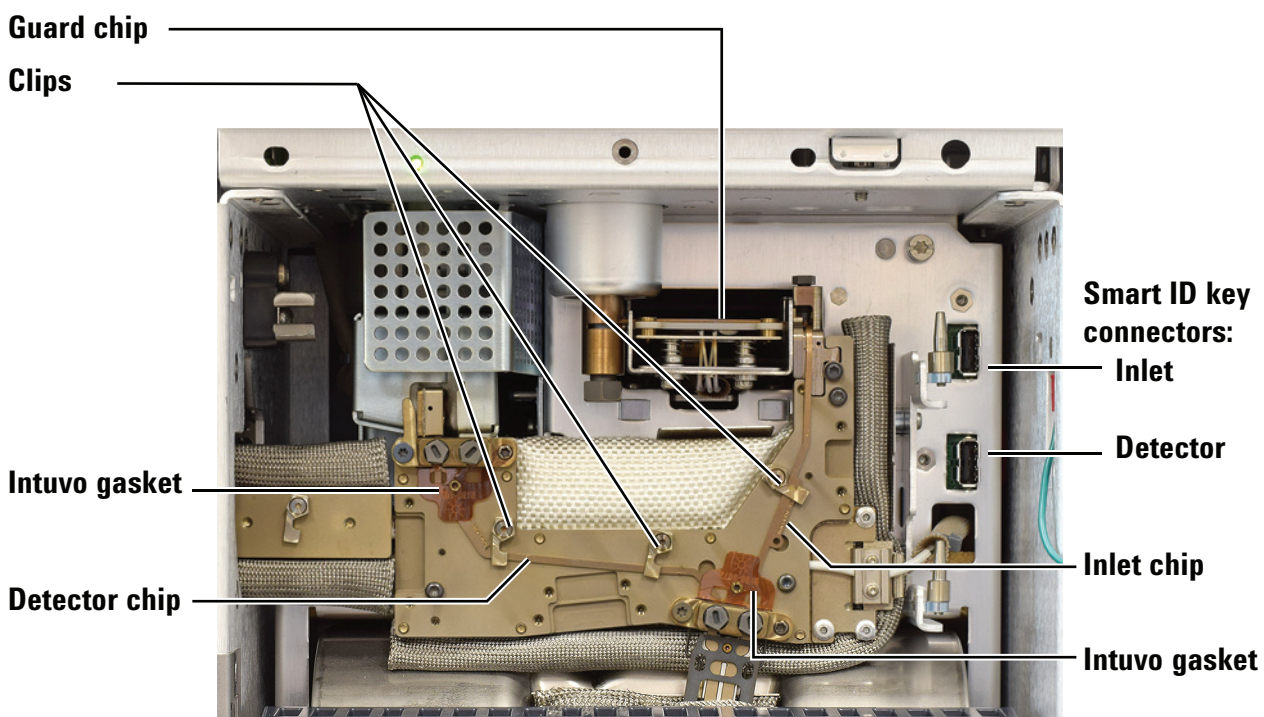

Figure 15 Intuvo bus components
Figure 15 shows the Intuvo major bus components.
- 15** Use a Intuvo torque driver to open the clips that hold the detector chip to the bus. See Figure 15.